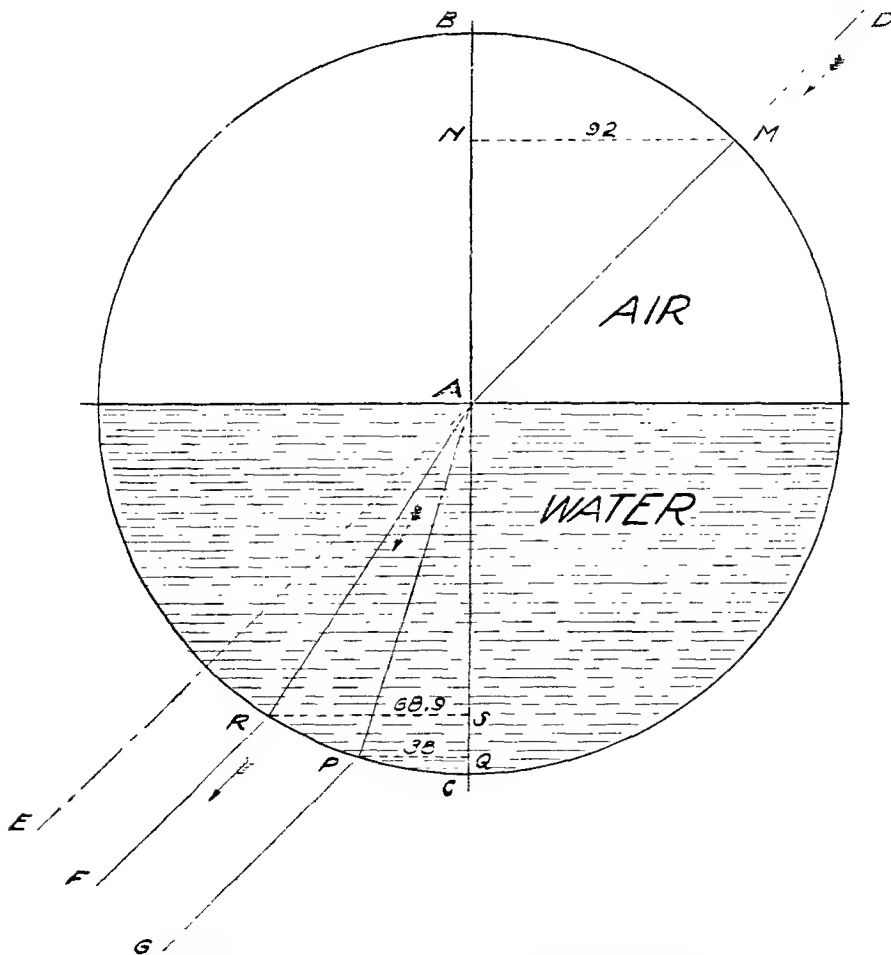

Figure 142 Refraction of Light by Water and Diamond
**Refraction.** Two sportsmen were fishing from a boat in perfectly clear water. Suddenly a water snake swam leisurely across their bow. The one who saw it first fired at it with his revolver, aiming directly at its head. He was a good shot and was amazed that he missed it. As it came to the other side of the boat, the second sportsman fired at it, aiming a considerable distance below its head and he hit it. Why? It was because he had remembered a well-known fact that when a beam of light passes into a denser medium, as from air into water, it is bent, its direction becoming more nearly perpendicular. This phenomenon is called *refraction*. Look at figure 142. Suppose a ray of light originating at D strikes the surface of the water at A, passes through it and
**Index of refraction.** Rays of light entering a given mineral, say diamond, are always bent to exactly the same extent every time, but one mineral differs from another in the extent to which it bends the rays. These facts often enable the mineralogist to positively determine the identity of an unknown mineral by ascertaining the exact extent of this bending, which is called its *index of refraction*. Such exact determinations involve the use of expensive instruments, which usually are beyond the reach of the beginner, but it is easy to understand the general principles of refraction of light by referring again to figure 142. Assuming that the distance from N to M is 92, the distance from S to R would be 68.9, and dividing 92 by 68.9 gives us 1.335 which is the index of refraction of water. If diamond were substituted for water, the ray entering at A would be bent much more towards the perpendicular BAC, that is in the direction AP, and it would be found that the line PQ would measure 38. Dividing 92 by 38 would give 2.42 as the index of refraction of diamond. The index of refraction of most minerals is in the neighborhood of 1.55 and very few exceed diamond.